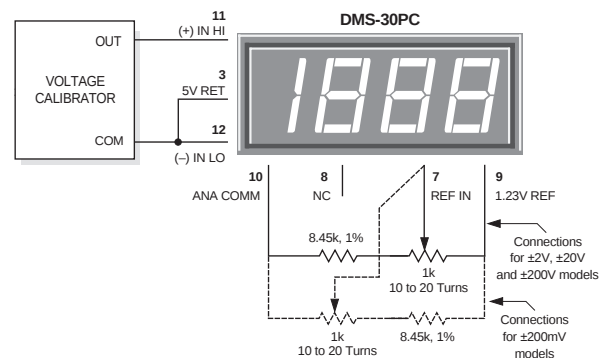

Figure 10. External Gain Adjustment
6. **Gain Adjust:** There is a gain-adjust potentiometer on the back of each meter. It has approximately  $\pm 50$  counts ( $\pm 2.5\%$ ) of adjustment range. Since these devices essentially have no zero/offset errors, a gain adjustment is effectively an overall accuracy adjustment. Though they may be performed at any point (except zero), accuracy adjustments are most effective when performed with higher level input signals. The circuit shown in Figure 10 provides  $\pm 10\%$  range of adjustment.
- 8. External Gain Adjustment:** Connect REFERENCE OUT (pin 8) to REFERENCE IN (pin 7) for normal, factory calibrated, operation. Use the +1.23V REFERENCE OUT (pin 9) for applications needing external gain adjustment. Figure 10 shows the wiring configuration for each model. Calibration is performed with a precise, near-full-scale, input voltage.